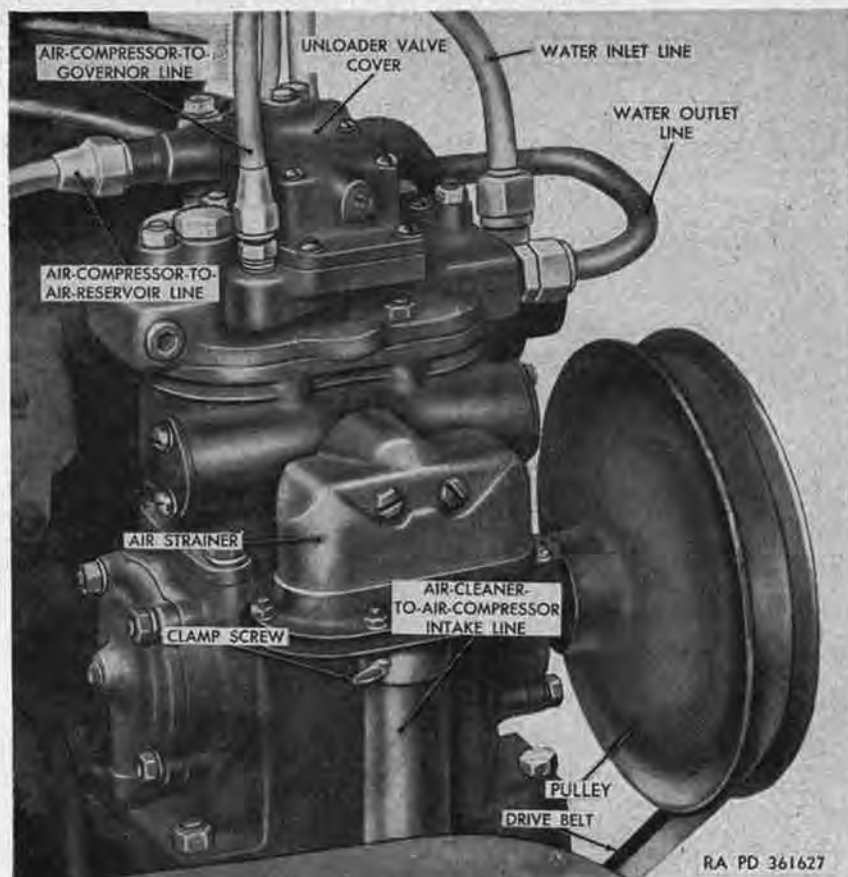

Figure 140. Air compressor.
- (10) *Disconnect air-compressor-to-air-reservoir line* (fig. 140). Unscrew flare nut at top rear of air compressor cylinder head and remove air-compressor-to-air-reservoir line.
- (11) *Disconnect air-cleaner-to-air-compressor-intake line* (vehicles equipped with air-cleaner-to-air-compressor-intake line only) (X, fig. 119 and fig. 140). Loosen hose clamp at bottom of air-compressor air strainer and remove air-cleaner-to-air-compressor-intake line from strainer intake sleeve.